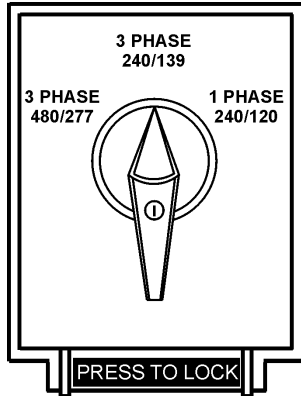

Figure 16. Voltage Selector Switch
The **voltage selector** switch (Figure 16) is located above the UVWO Hard Wire Hook-up Panel. It has been provided for ease of voltage selection.
A wide range of voltages are available to supply voltage for many different applications. Voltages are selected by using the **voltage selector switch** (Figure 16). To obtain some of the voltages as listed in Table 7 (see below) will require a fine adjustment using the **voltage regulator (VR) control knob** located on the control panel.